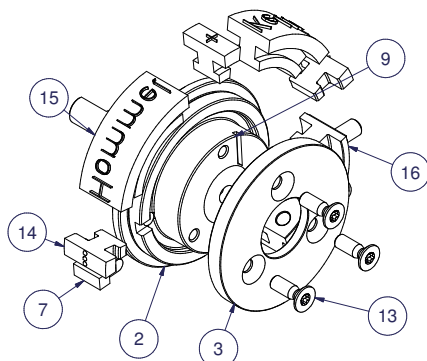

Figure 6: Installation of the segments
Press segments and end-segment (Fig. 6, pos. 15 and 16) flush against the segment stop (Fig. 6, pos. 7). In the process, the individual segments must align without gaps. As an additional clamping means, tighten the three threaded pins of the end segment (Fig. 6, pos. 16) and tighten the countersunk screws (Fig. 6, pos. 13) for clamping of the segment cover (Fig. 6, pos. 3).
In order to be able to install the marking segments, the countersunk screws (Fig. 6, pos. 13) and the segment cover (Fig. 6, pos. 3) must be completely removed. Then, insert the end-segment (Fig. 6, pos. 7) with the pin first into the groove of the segment receptacle (Fig. 6, pos. 2). The start segment (Fig. 6, pos. 14) is joined and attached to the segment stop. Then, the segments (Fig. 6, pos. 15) and the end-segment (Fig. 6, pos. 16) follow. **Do not screw down the end segment for the time being.** Then, the segment cover can be re-installed on the segment receptacle and fastened gently with the countersunk screws.